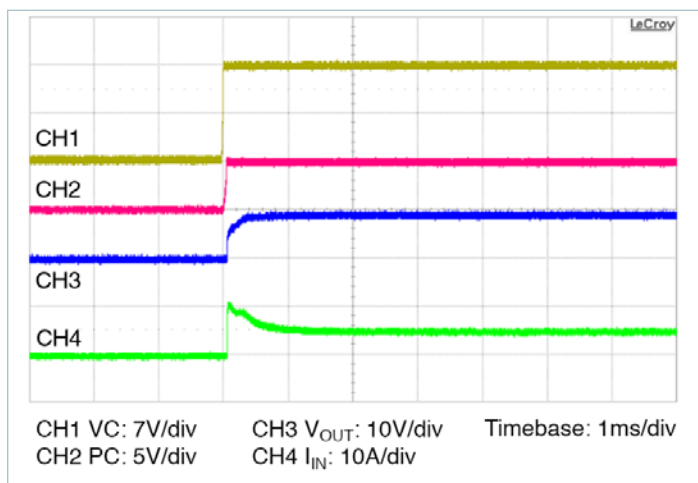

Figure 14 — Start up from application of VC; V_{IN} pre-applied $C_{OUT} = 1600\mu\text{F}$
- **Stand-alone operation (VC applied after V_{IN}):** In this case the VTM output will begin to rise upon the application of the VC voltage (See Figure 14). The Adaptive Soft-Start Circuit may vary the output rate of rise in order to limit the inrush current to its maximum level. When starting into high capacitance or a short, the output current will be limited for a maximum of 1200 μ s. After this period, the Adaptive Soft-Start Circuit will time out and the VTM module may shut down. No restart will be attempted until VC is re-applied or PC is toggled. The maximum output capacitance is limited to 1600 μ F in this mode of operation to ensure a successful start.